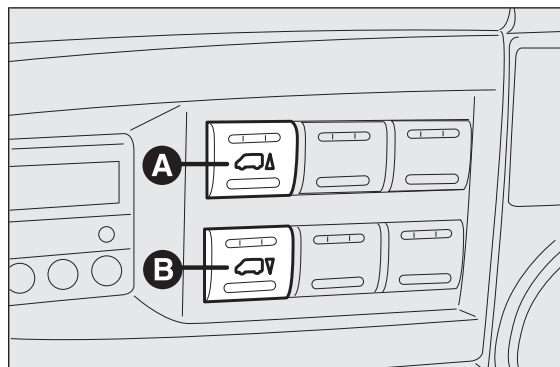

fig. 170
- ☐ for versions equipped with self-levelling air suspension, before raising the vehicle with the jack, press buttons A and B fig. 170 simultaneously for at least 5 seconds. The operating mode for raising the vehicle is activated: the LEDs on the buttons come on constantly. To exit this mode, press buttons A and B simultaneously for another 5 seconds; both LEDs on the buttons will go out and full system operation will be restored. This mode deactivates automatically when the speed of approx. 5 km/h is exceeded.